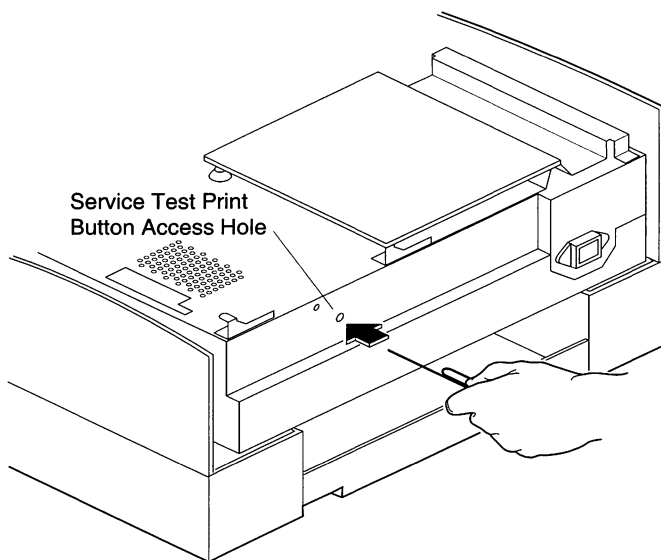

Figure 37. Generating a Service Test Page With I/O Board Intact
3. Insert a straightened paper clip in the hole on the back of the I/O board mount, as shown in Figure 37. Move the paper clip back and forth to jumper P32. Remove the paper clip when you hear the fan come on and the transfer rollers begin to rotate. A few seconds later the test page will appear.